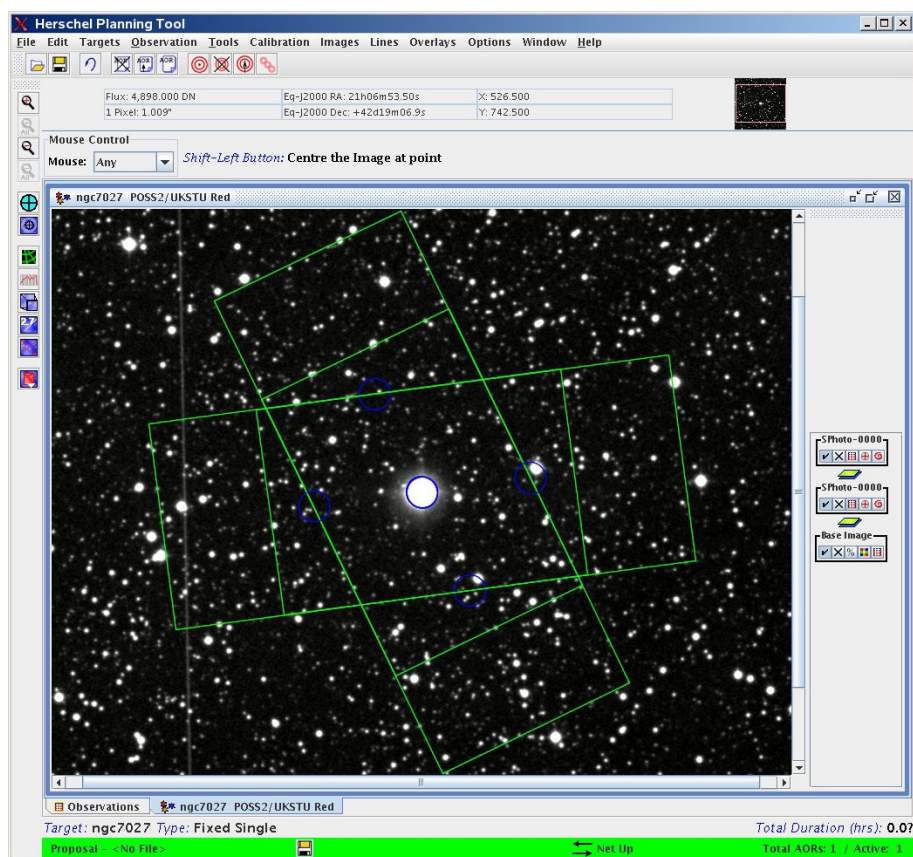

Figure 19.24. SPIRE Point Source Photometry: an example of an AOR overlay.
12. The final picture with the same AOR at the two extreme dates of the visibility window: 2009 Mar 31 and 2009 Aug 01 is shown in Figure 19.24